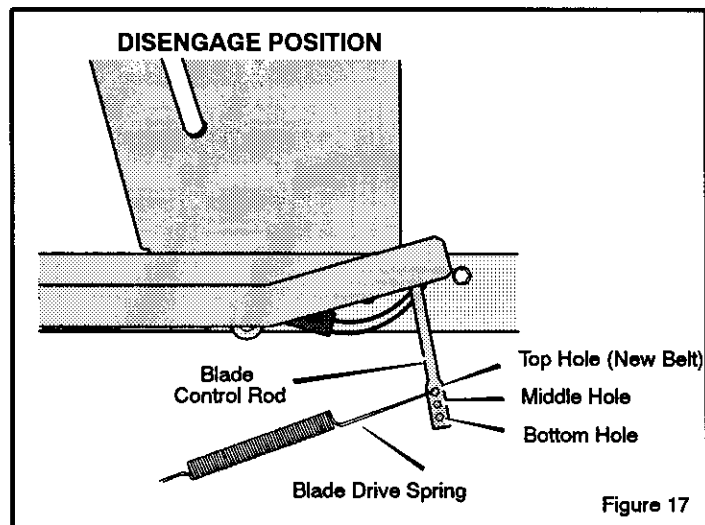

Figure 17
5. Disconnect the blade drive spring from the blade control rod. Move the blade drive spring to the middle hole (Figure 17). This will increase the tension on the mower drive belt.
12. If you replace the mower drive belt, move the blade drive spring to the top hole (Figure 17).